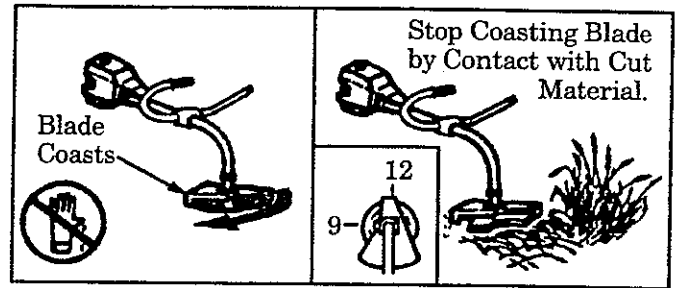

Figure 10
- Stop the blade by allowing the "9 o'clock" position to contact cut material. Figure 10.